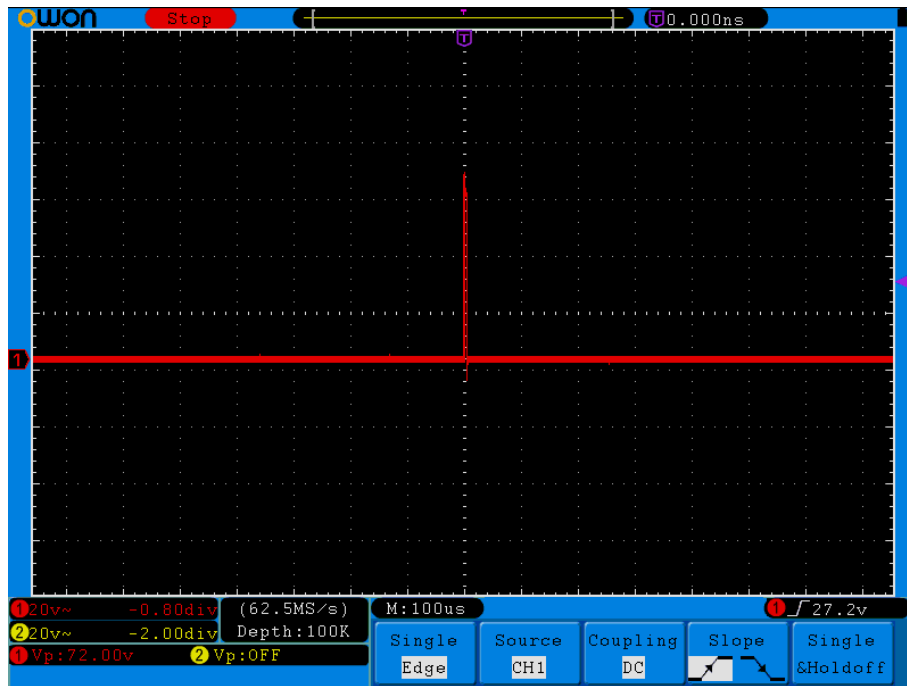

Fig.6-3 Capture the Single Signal
- (5) Press the **F2** button to choose **Peak detect**.
- (6) Press the **Trigger Menu** button to display the Trigger menu.
- (7) Press the **H1** button to display the Trigger Type menu.
- (8) Press the **F1** to choose **Single** as the type.
- (9) Turn the **M** knob to choose **Edge** as the mode.
- (10) Press the **H2** button to display the **Source** menu.
- (11) Press the **F1** button to choose **CH1** as the source.
- (12) Press the **H3** button to display the Coupling menu; press the F2 button to choose **DC** as the Coupling.
- (13) Press the **H4** button to choose  (rising) as the Slope.
- (14) Rotate the **TRIG LEVEL** knob and adjust the trigger level to the mid-value of the signal to be measured.
- (15) If the **Trigger State Indicator** at the top of the screen does not indicate **Ready**, push down the **Run/Stop** button and start acquiring, waiting the emergence of the signal in conformity with the trigger conditions. If a signal reaches to the set trigger level, one sampling will be made and then displayed in the screen. With this function, any random occurrence can be captured easily. Taking the burst burr of larger amplitude for example, set the trigger level to the value just greater than the normal signal level, and then presses the **Run/Stop** button and waits. When there is a burr occurring, the instrument will trigger automatically and record the waveform generated during the period around the trigger time. With the **HORIZONTAL POSITION** knob in the horizontal control area in the panel rotated, you can change the horizontal position of the trigger position to obtain the negative delay, making an easy observation of the waveform before the burr occurs (see **Fig.6-3**).